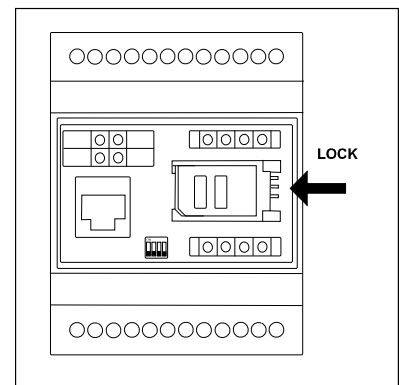

Figure 7.1.4
- Slide the SIM card holder away from its hinges to lock it (see the *figure 7.1.4*).